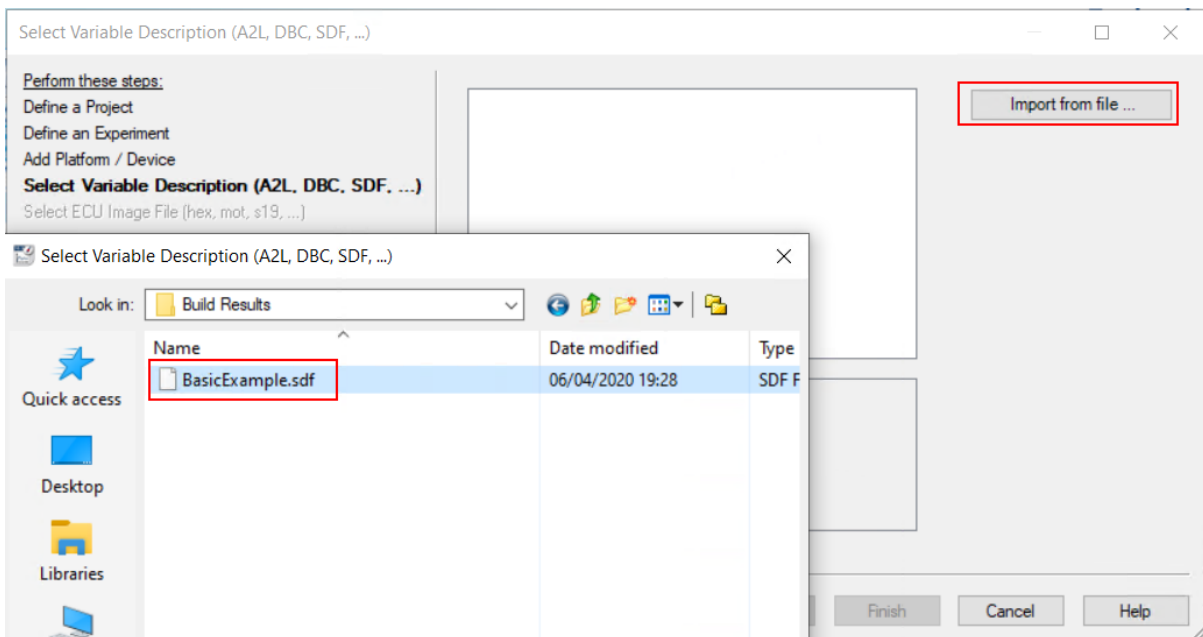

Figure 12.79: Import the variable description file.
- 5) Import the variable description file `BasicExample.sdf` in order to have access to the model variables and see the results of the execution (see Figure 12.79).